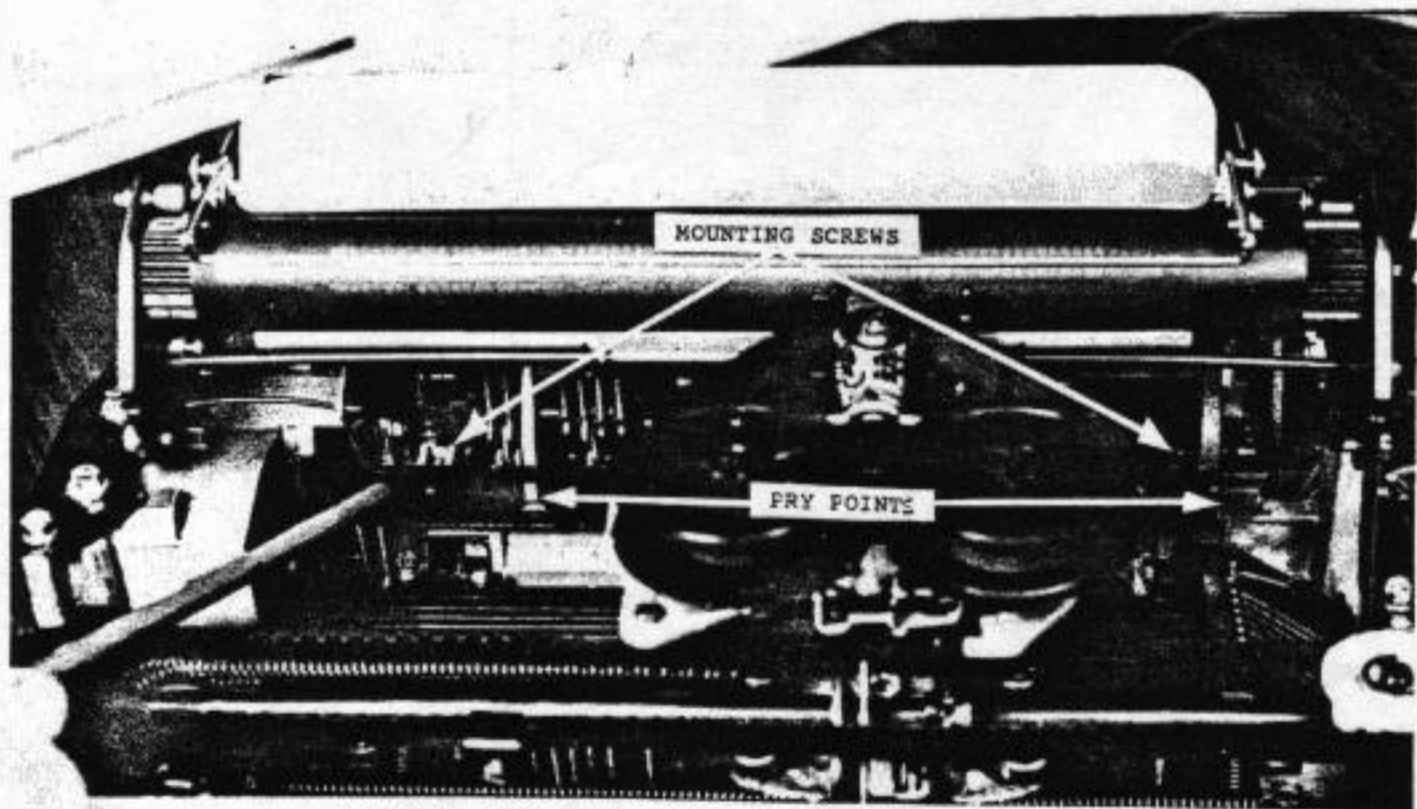

Fig. 32-95
2. Alignment instructions are given in Fig. 32-94. Location of alignment points are shown in Fig. 32-95.